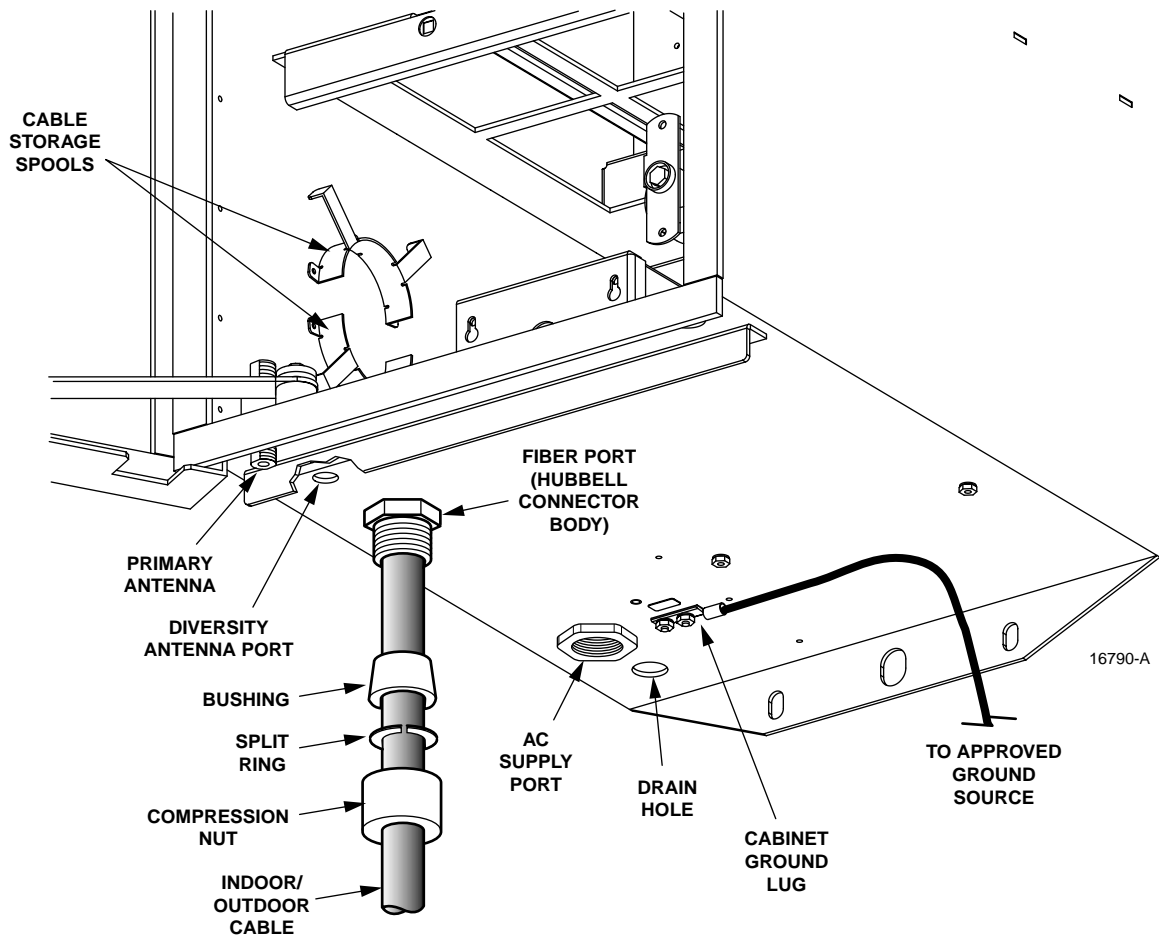

Figure 6. Cable Entry Ports on Cabinet
2. Route the external AC power conduit to the AC power 3/4-inch NPT threaded hole on the left-rear underside of the cabinet directly underneath the auxiliary junction box. See Figure 6. Use the conduit fitting provided, or a UL approved equivalent, to provide a moisture barrier. The 3/4-inch (19.0 mm) conduit fitting mounted on the underside of the cabinet is designed to accept threaded rigid conduit.
1. Insert an appropriate sized compression fitting into the water-resistant connector installed on the bottom of the cabinet (see Figure 6).
A customer supplied coaxial antenna cable must be routed from each antenna and attached to a lightning protector mounted on the underside of the cabinet (see Figure 6). The cable must be connectorized with an N-type connector for attachment to the underside of the lightning protector. ADC-provided coaxial jumper cables configured with N-type connectors on both ends are used to route RF from the top of each lightning protector to connectors on the STM. Each cabinet is shipped to the field configured with one lightning protector (primary), and one coaxial RF jumper cable that must be attached to the Antenna connector on the STM (refer to item 18 on Figure 1). A second lightning protector and RF jumper cable is provided in the